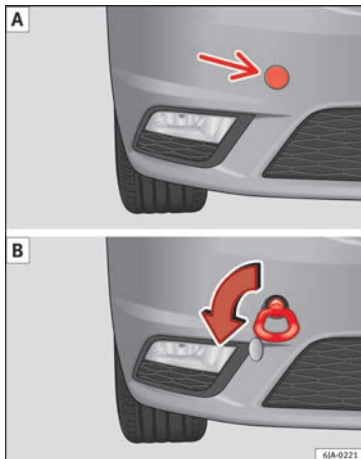

Fig. 131 Front bumper: towline anchorage cover/fitting.
- Press on the left of the cover as indicated by the arrow » **Fig. 131 A**.
- Screw in the towline anchorage anti-clockwise by hand as far as it will go » **Fig. 131 B**.